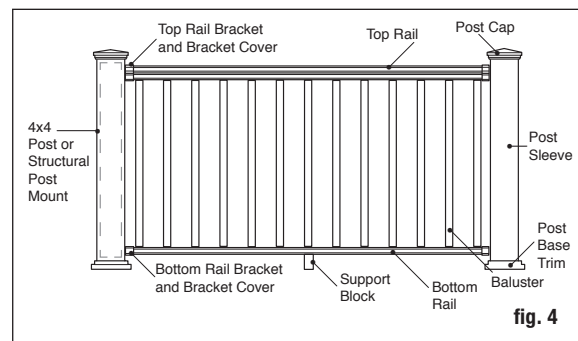

fig. 4
Step 5 Trim 4x4 post sleeves to length. Post sleeves should be a minimum of 2" longer than the railing height (fig. 4). Example: For a 36" high railing, trim post sleeve to a minimum of 38", can be left longer if desired. Slide a trimmed post sleeve over each 4x4 railing post or post mount. Post sleeve should slide easily over the post. DO NOT FORCE post sleeve onto post. Twisted or crooked 4x4s should be replaced. Slide a post base trim (optional) over each post sleeve for a finished look. *Note: It is recommended to install the post base trim prior to installing the bottom rail. However, the two-piece design does allow the installer to add the post base trim after the rail has been installed. To install, apply a thin line of clear exterior construction adhesive to the inside of the post trim, where it will contact the post sleeve, and snap into place around the base of the post sleeve.*